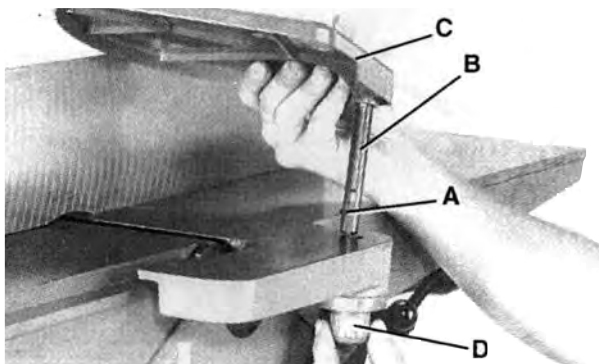

FIGURE 19
1. Remove set screw (A) Fig. 19, from post (B) of cutterhead guard (C).
2. Assemble cutterhead guard (C) Fig. 19, to the jointer by inserting post (B) down through the hole in the infeed table. **NOTE:** A spring is supplied in knob assembly (D) that returns the guard (C) over the cutterhead after a cut has been made. Turn knob (D) to provide tension on the spring before inserting post (B). Make certain the spring engages in the slot of the post. If spring tension is too much or too little, adjust the spring accordingly by removing the guard and rotating knob (D).